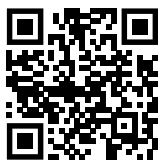

Fig. 142
- Aprire la Liebherr SmartMonitoring Dashboard. (vedere Fig. 142)